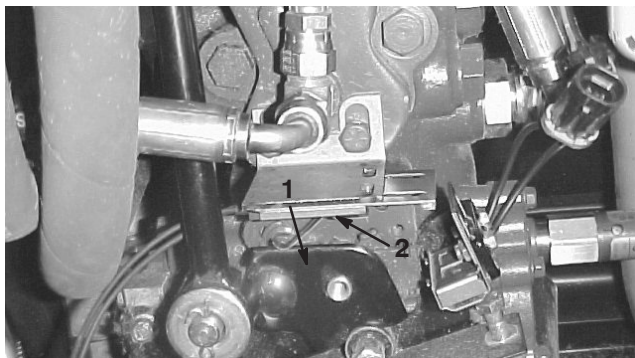

Figure 9
8. Remove the two fasteners from the cover on the bottom of the Hydrostat. Install the mechanical switch so that the arm on the switch is in contact with the cam neutral device (approx. 3/8" in from outer edge of cam). Engage the switch by sliding it towards the cam until a click is heard. Slowly slide the switch away from the cam until it clicks again (resets) (Fig. 9).